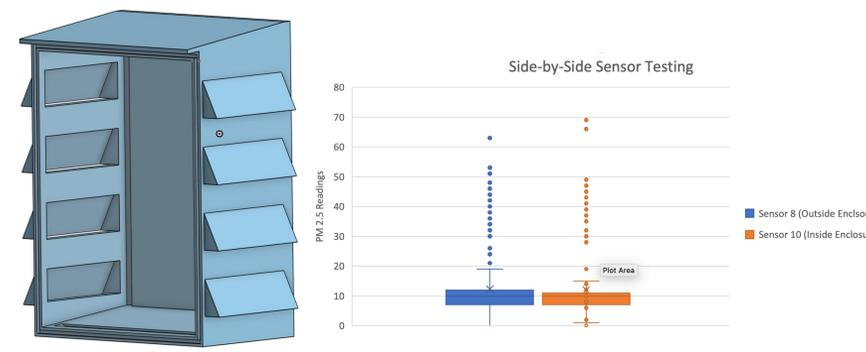

Figure 4 – Enclosure prototype design and testing sensor side-by-side with enclosure.
- Developed a prototype sensor enclosure which records similar readings as an "open-air" sensor, while protecting from environmental conditions such as rain. (Figure 4)